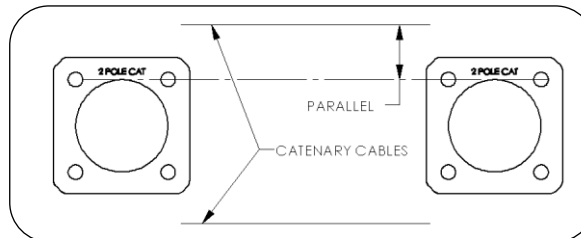

Fig. 1 – Proper Anchor Alignment
2. **Anchors must be aligned parallel to future catenary cables.** (see Fig. 1.)